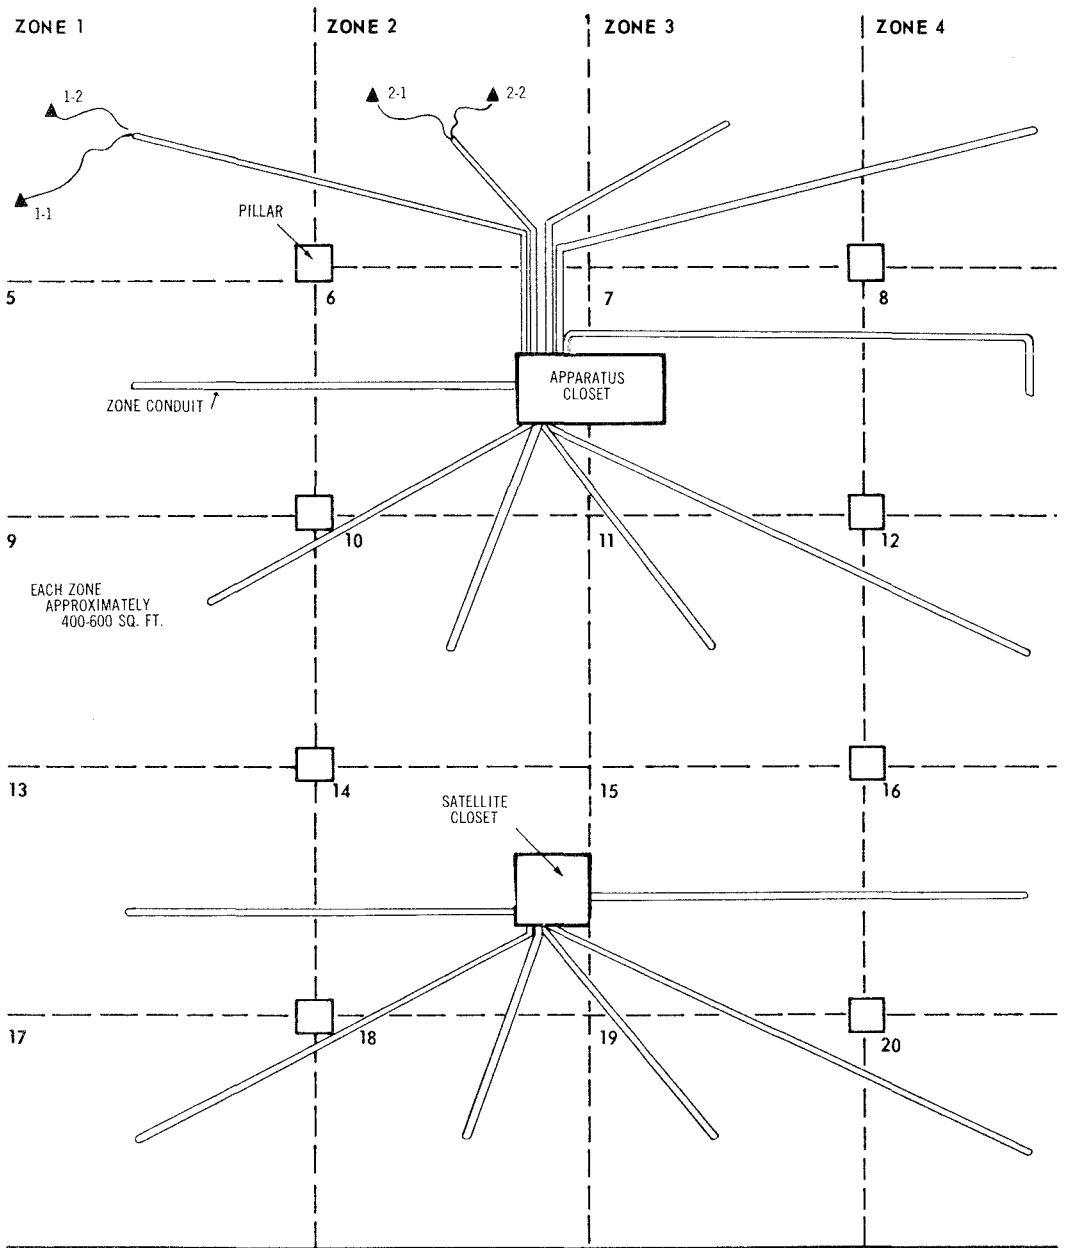

Fig. 12 – Typical Zone Layout Hung Ceiling System
**9.01** The floor area to be served shall be divided into telephone zones consisting of not more than 400 to 600 square feet. (See Fig. 12).
**9.02** To feed the telephone zone, the building will usually have a continuous length of 2-inch conduit in the ceiling space, properly supported to permit the pulling-in of cables. This conduit should extend from the nearest telephone terminal or apparatus closet and left open-ended at the midpoint of each telephone zone as illustrated in Fig. 12.
- (a) A number should be assigned to each zone (see Fig. 12).